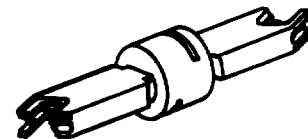

Fig. 3—Blades for Use With D Impact Tool♦
2.10 Three blades are currently being introduced with the D impact tool (Fig. 3). Each blade has a solid barrel located in the mid portion of the blade. The barrel is grooved to fit the spring pin lock of the handle.